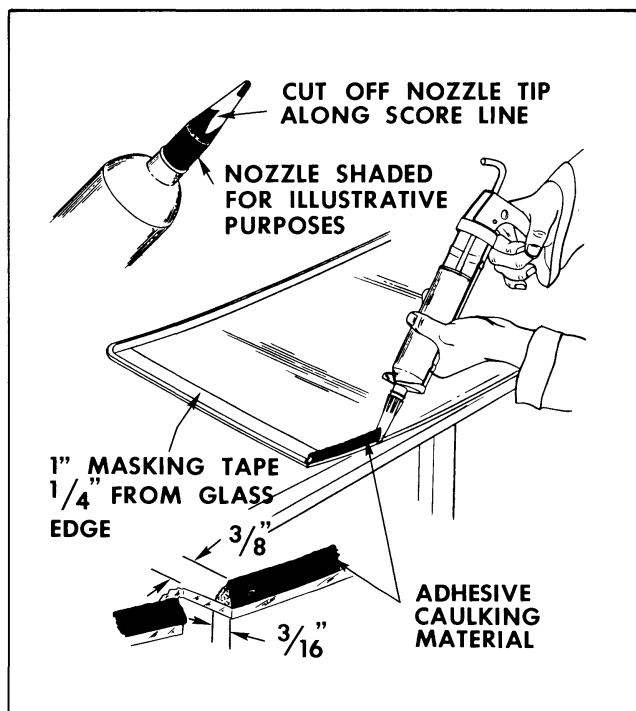

Fig. 13-16 Application of Adhesive Caulking
9. Beginning at a corner, apply 1" masking tape completely around edge of glass inner surface 1/4" inboard from outer edge (Fig. 13-16).
12. Cut off tip of one nozzle along score line (Fig. 13-16). This nozzle will be used to apply bead of adhesive caulking material to glass. Cut tip off other nozzle at a 45° angle 1" below end of nozzle. This will be used to apply smear bead of adhesive caulking material to pinchweld flange.
16. Positioning gun and nozzle as shown in Fig. 13-16, carefully apply a smooth continuous bead of caulking material 3/8" high by 3/16" wide at base completely around inside edge of glass. When material in first tube is dispensed, quickly insert second tube and continue application of bead.